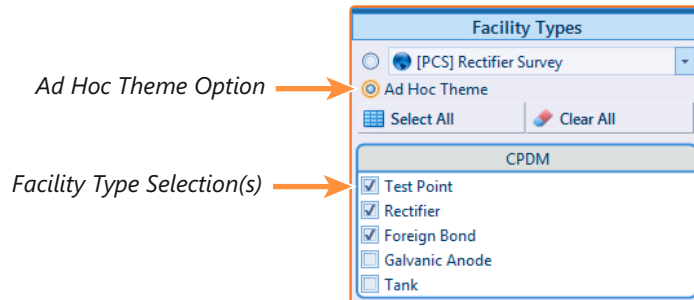

Figure 8-9. Ad Hoc Theme Option
- b To select multiple facility types, click the option button **Ad Hoc Theme** and then click the check box for one or more facility types, such as *Test Point*, *Rectifier*, and *Foreign Bond* (Figure 8-9, page 357).